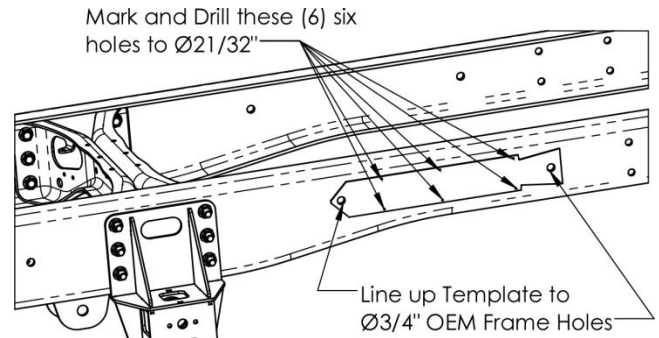

Figure 8. Location of Drilling Template on Driver Side Frame (Steel Leaf Spring Conversion)
14. [DS155NDLP-S and -SC Suspension] Locate the Frame drilling template and place along the frame as shown in Figure 8 and Appendix C: Frame Drilling Locations, Figure A 3, and Figure A 4